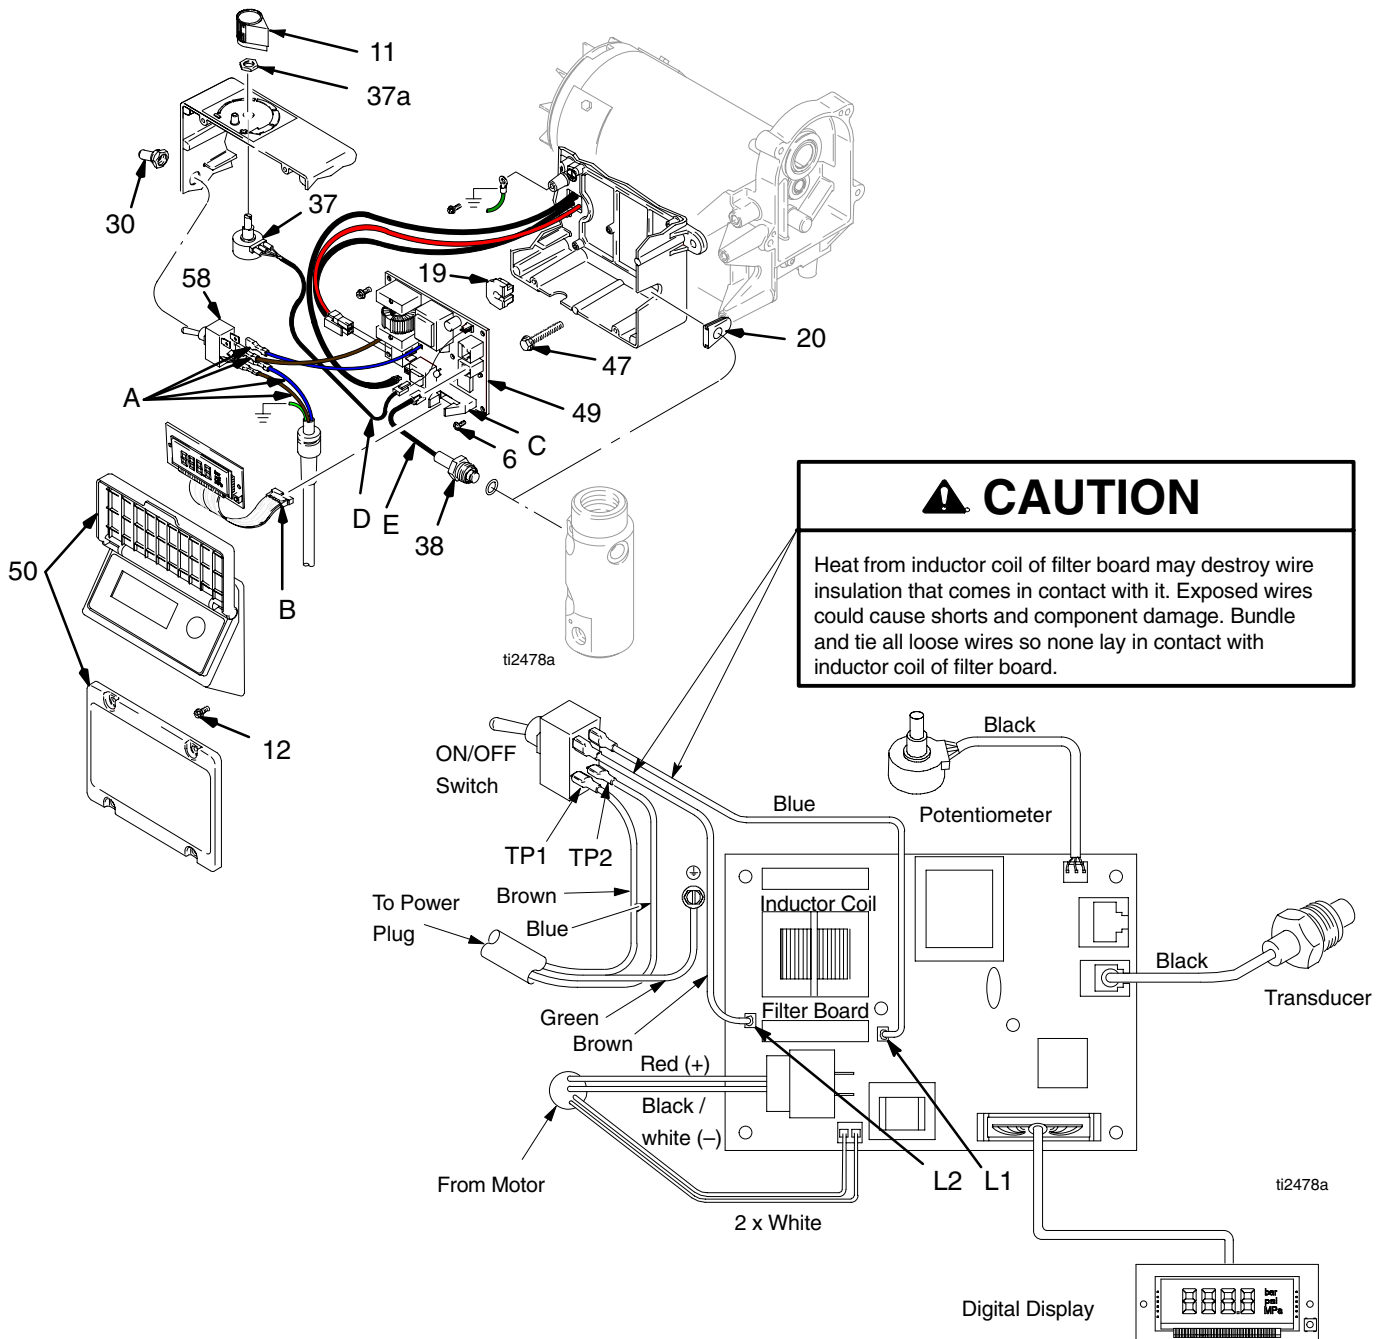

Fig. 7
2. Fig. 7. Remove four screws (12) and pressure control cover (50).
3. Remove display connector (B) from plug (C).
4. Disconnect four wires (A) from ON/OFF switch (58).
5. Remove toggle boot (30) and locking ring. Remove ON/OFF switch (58).
Refer to Fig. 7.
2. Fig. 7. Install motor control board (49) with five screws (6).
3. Connect to motor control board (49):
- Lead (E) to transducer.
- Lead (D) to potentiometer.
- Lead (B) from display to plug (C), if display is installed.
4. Bundle and tie all loose wires so none lay in contact with inductor coil (not 120 Vac sprayers). See **Wiring Diagram CAUTION**, Fig. 7.
5. Install cover (50) with four screws (12).
2. Remove four screws (12) and cover (50). See Fig. 7.